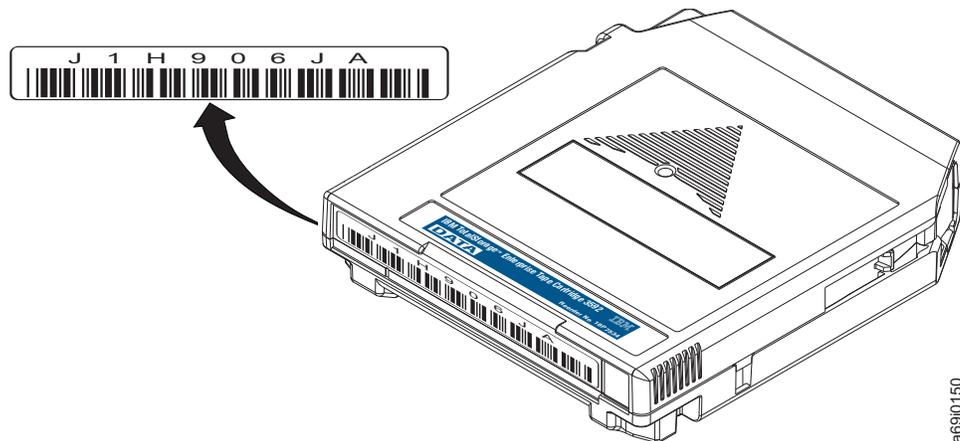

Figure 63. Sample bar code label on an IBM 3592 tape cartridge. The volume serial number (J1H906JA) and bar code are printed on the label.
When read by the library's bar code reader, the bar code identifies the cartridge's VOLSER to the tape library. The bar code also tells the cartridge type: data (JA), extended data (JB), advanced type C data (JC), advanced type D data (JD), economy (JJ), advanced type C economy (JK), advanced type D economy (JL), economy WORM (JR), WORM (JW), extended WORM (JX), advanced type C WORM (JY), advanced type D WORM (JZ), cleaning, or diagnostic cartridge. Figure 63 on page 278 shows a sample bar code label for the IBM 3592 Enterprise Tape Cartridge.
When attaching a bar code label to a tape cartridge, place the label only in the recessed bar code label area (see Figure 63 on page 278). A label that extends outside of the recessed area can cause loading problems in the drive or the library.